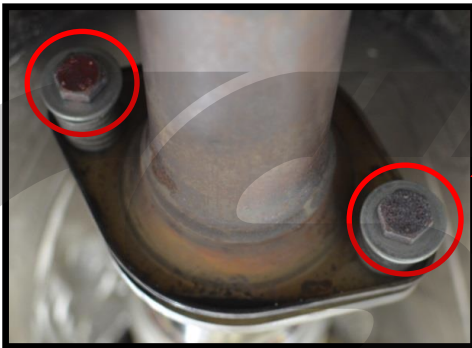

Figure 6d
- d) Remove the two 17 mm (14mm for OEM) bolts between the downpipe and the catback exhaust (CBE), **circled in red** in **Figure 6d**. (If applicable) Remove the 17mm (14mm for OEM) bolts between the race pipe and upper downpipe.